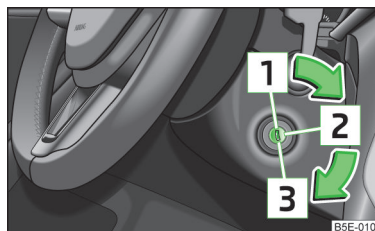

Fig. 117
- When driving, the ignition key must always be in the position [2] » Fig. 117 on page 114 (ignition switched on) without the engine running. This position is indicated by the warning lights coming on. If this is not the case, it could result in unexpected locking of the steering wheel – risk of accident!
Petrol engines » Fig. 117
Diesel engines » Fig. 117
If the **steering is locked** and the key cannot or can only be turned with difficulty into the position **2** » Fig. 117, move the steering wheel back and forth and the steering lock will unlock.
- Switch on the ignition **[2]** » Fig. 117 on page 114.
Switch off the engine by turning the ignition key into position **[1]** » Fig. 117 on page 114.